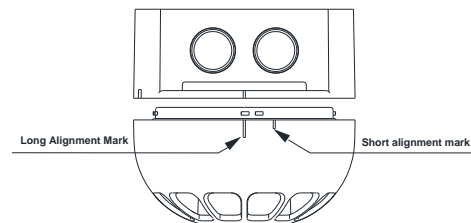

Fig. 3: Fitting the audio/visual alarm device to the backbox
3. Align the device alignment mark with the short alignment mark in the backbox, as shown in Fig. 3.